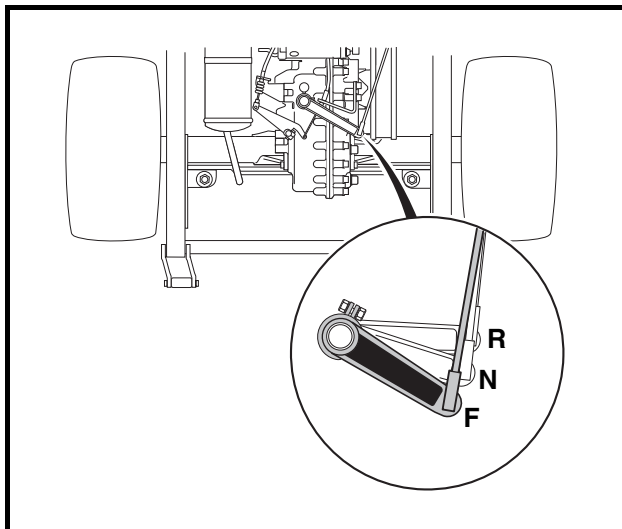

Figure 19-1 Shifter Positions (Top View)
A shifter lever, connected to a shifter arm, is used to change the gears to one of three shift positions: FORWARD (F), NEUTRAL (N), or REVERSE (R) (**Figure 19-1, Page 19-1**). Bring the vehicle to a complete stop before changing FORWARD or REVERSE direction.